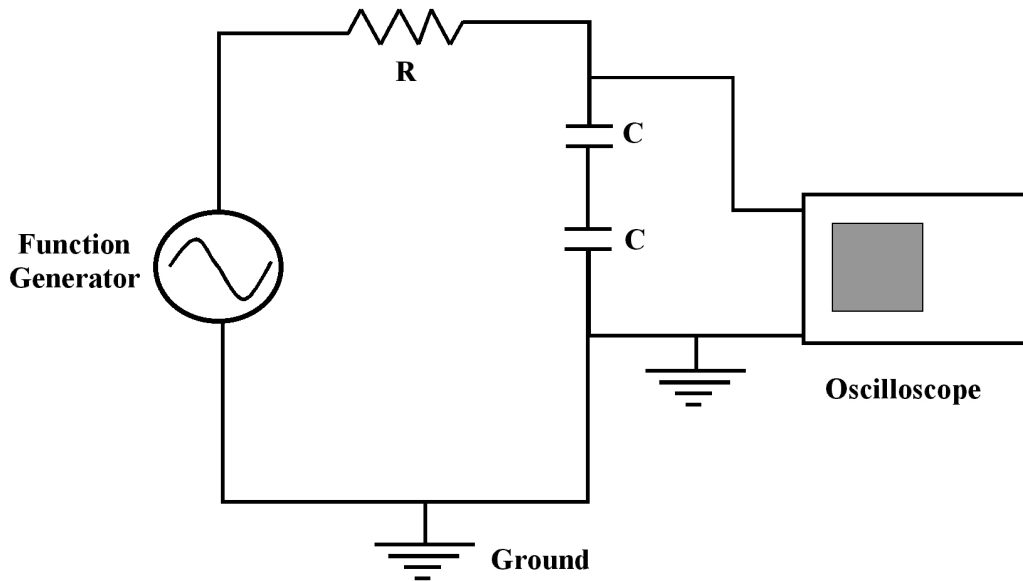

Figure 8: Circuit Diagram for RC Circuit with Two Capacitors in Series
1. Construct a circuit with one $10 \text{ k}\Omega$ resistor and two $0.1 \mu\text{F}$ capacitors in series. Refer to Figure 8. Notice that the Oscilloscope measures the voltage drop across *both* capacitors. Record the measured values of resistor and the two capacitors on your data table.